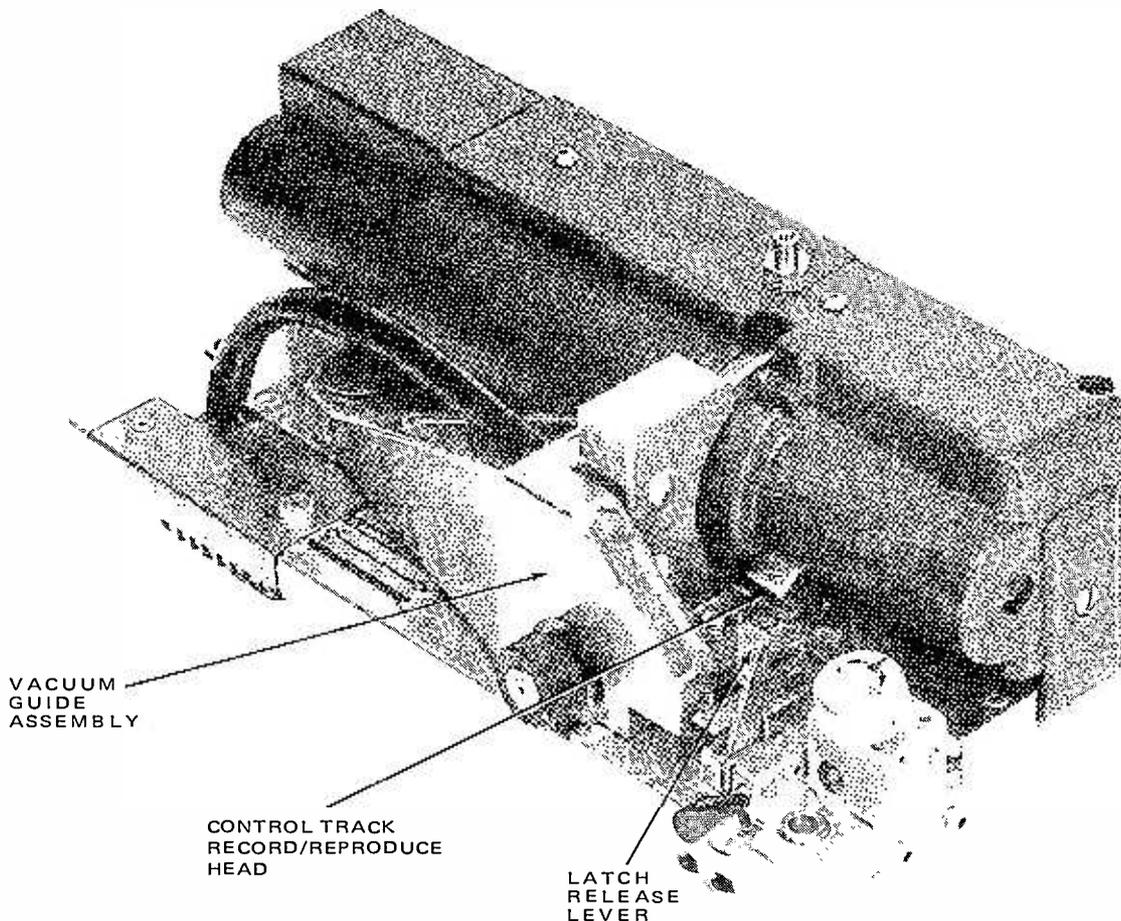

Figure 3-2. Control Track Record/Reproduce Head
4. Swing the hinged vacuum guide away from its latched position close to the video head wheel by pulling latch release lever (see Figure 3-2) backward (towards operator), and pulling the vacuum guide assembly backward at the same time.
6. Clean the control track record/reproduce head (see Figure 3-2).
1. Move the demagnetizer slowly and evenly toward the control track record/reproduce head (see Figure 3-2). Straddle head gap with demagnetizer pole tips allowing them to touch head lightly.